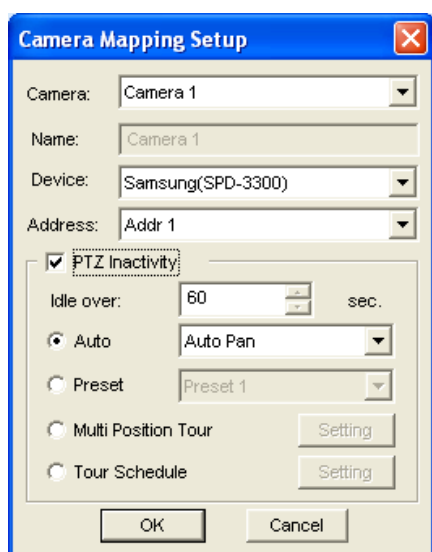

Figure 1-50 Camera Mapping Setup
1. In the Camera Mapping Setup dialog box (Figure 1-50), select **PTZ Inactivity**.
1. Select **Multi Position Tour** on the Camera Mapping Setup dialog box (Figure 1-50), and click the **Setting** button. This dialog box appears.
1. Select **Tour Schedule** on the Camera Mapping Setup dialog box (Figure 1-50), and click the **Setting** button. This dialog box appears.